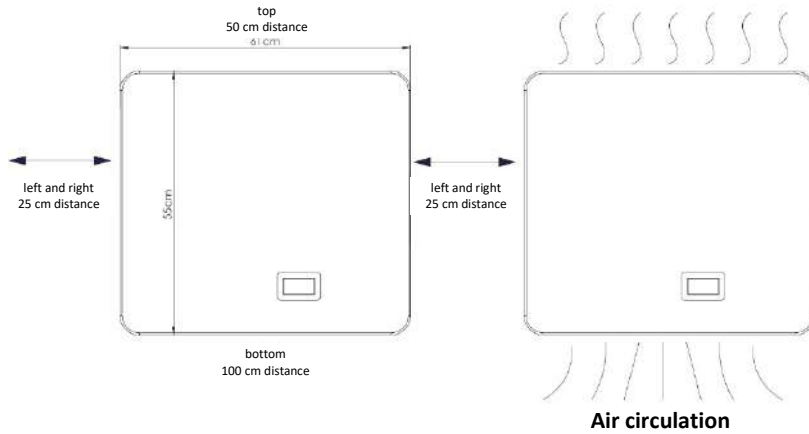

Fig. 7: Minimum distances around the device
- Observe minimum distances to the sides of the housing, see Fig. 7
- 2. Determine the mounting position of the device. Check compliance with minimum distances (Fig. 7).